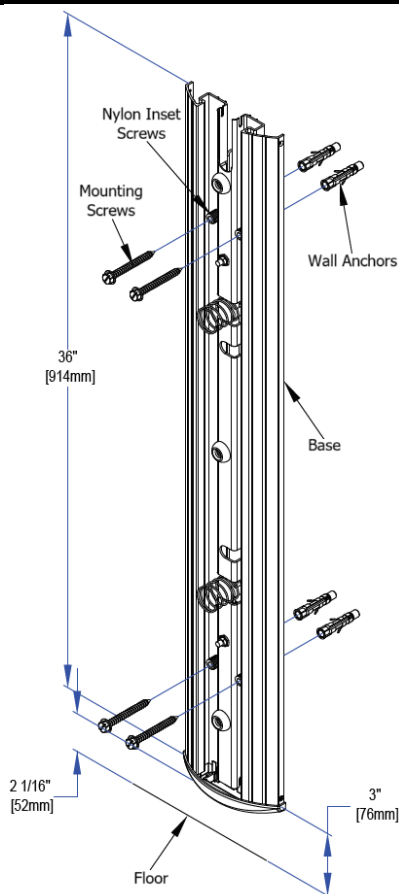

Figure 4: Mounting Diagram
2. Determine and mark the optimum top edge height from the finished floor. See Figure 4 for common height. If utilizing an inwall electrical box, center the backplate over the box, while lining up the top edge with the height marked earlier.